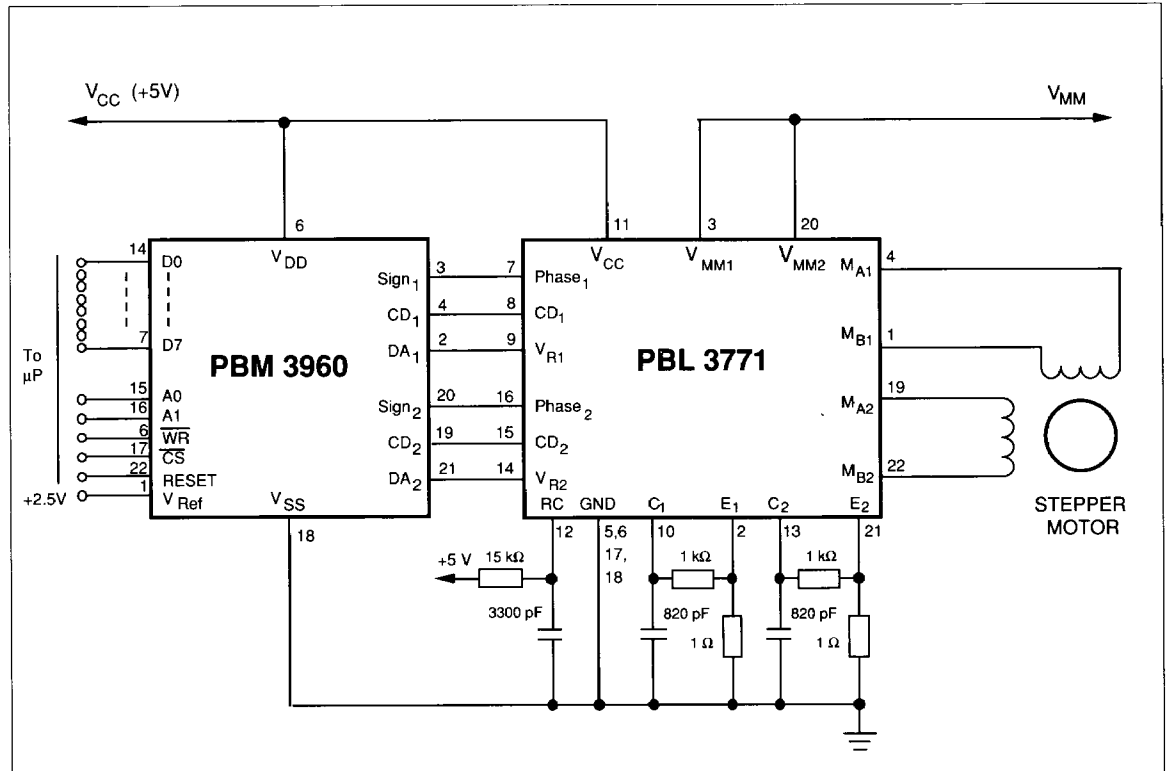

Figure 14. Typical application in a microprocessor based system.
**With a microprocessor**, data is stored in ROM / RAM area or each step is successively calculated. PBM 3960 is connected like any peripheral addressable device. All parts of stepping can be tailored for specific damping needs etc. This is the ideal solution for a system where there is an available microprocessor with extra capacity and low cost is more essential than simplicity. See typical application, figure 14.